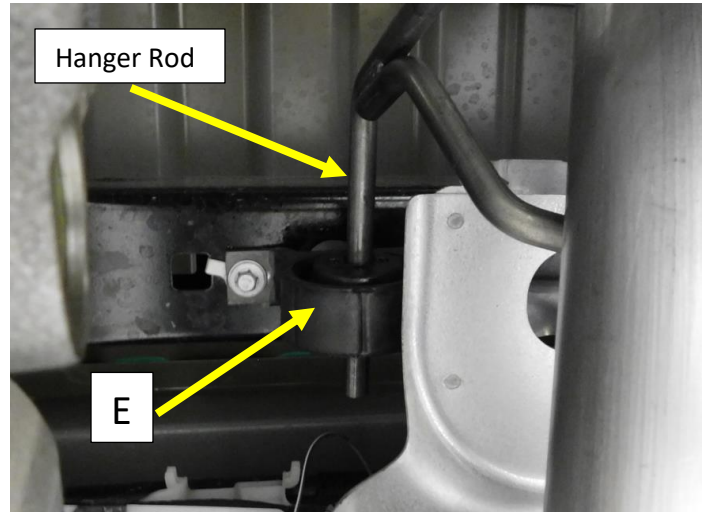

Figure 6
7. Reinstall the muffler hanger assembly (E). \* Be sure the tab is in the slot (not the round hole) **Fig. 6**